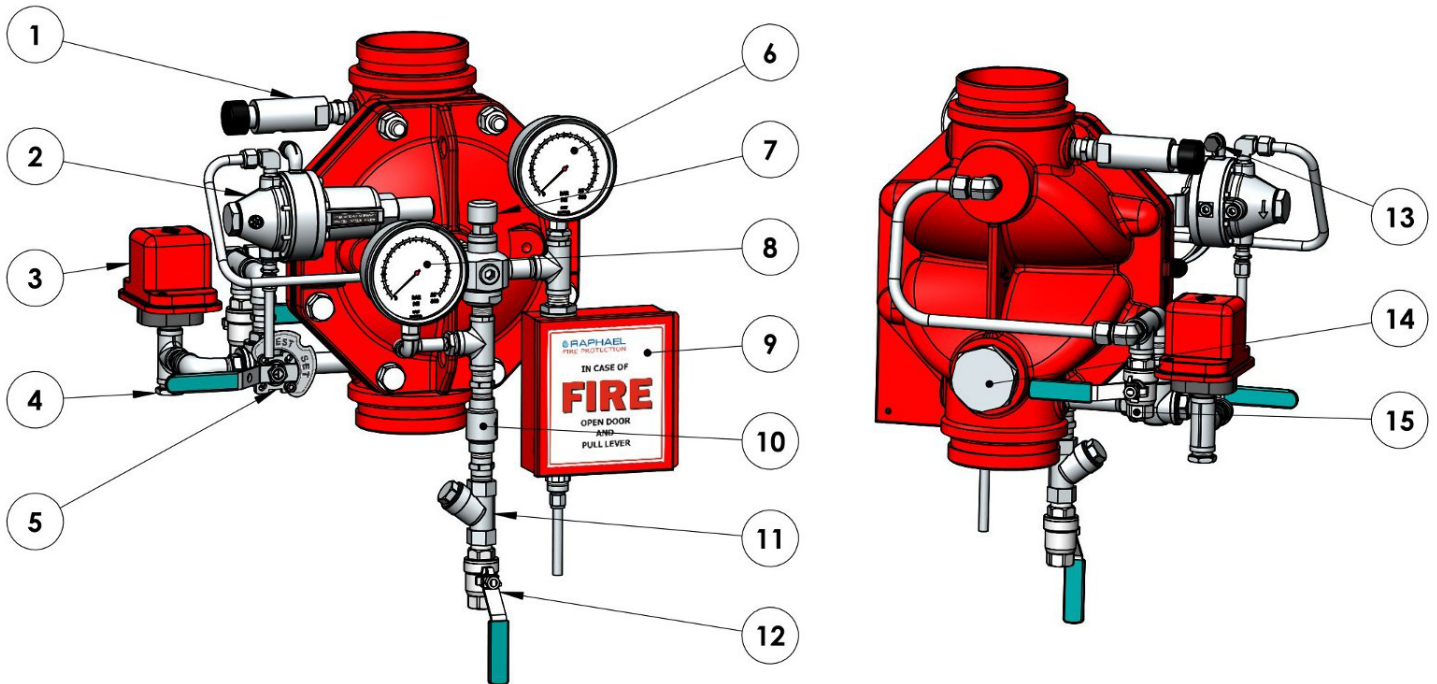

Figure .1
Operation (Reference Figure 1)
- (1) – Trim pressure supply connection - ½" NPT female.
- (4 Fig 1) – Alarm gong to alarm test valve - ½" NPT female.